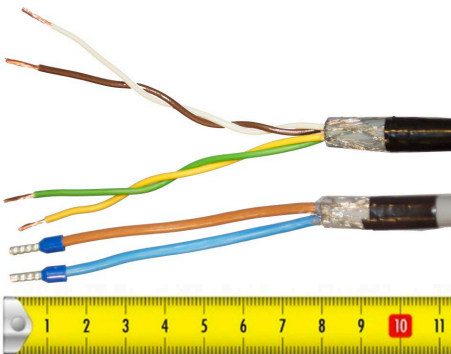

Figure 6: Cable Preparation Sending Cable Sides
4. Attach the remaining visible grounding shield to the metal saddle on the rear of the instrument. See *Figure 6: Cable Preparation Sending Cable Sides* on page 13.